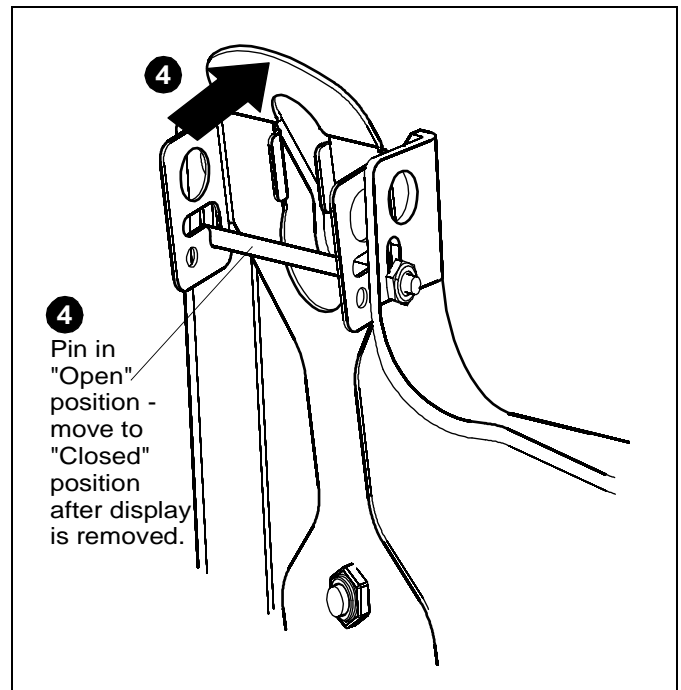

Figure 16
- Lift up on pin and place flag back against faceplate to return it to "Closed" position. (See Figure 16)